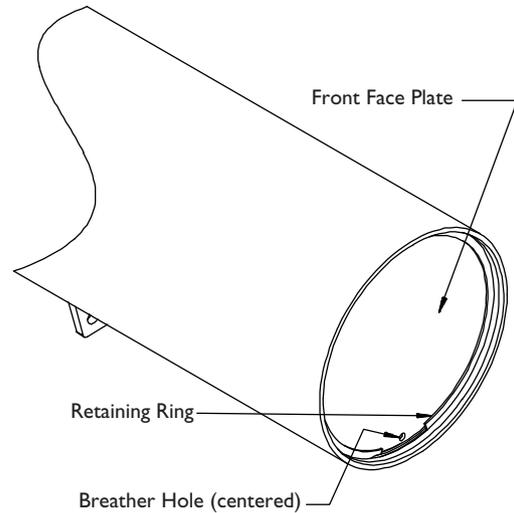

FIGURE 21 Location of the Breather Hole
**NOTE:** Make sure the breather hole is located at the bottom of the housing. If it is not, remove both front retaining rings and the face plate. Orient them so the breather hole is located at the bottom and the gaps in the retaining rings are centered over the breather hole. See FIGURE 21.
NOTE: Make sure the breather hole is located at the bottom of the housing. If it is not, remove both front retaining rings and the face plate. Orient them so the breather hole is located at the bottom and the gaps in the retaining rings are centered over the breather hole. See FIGURE 21.